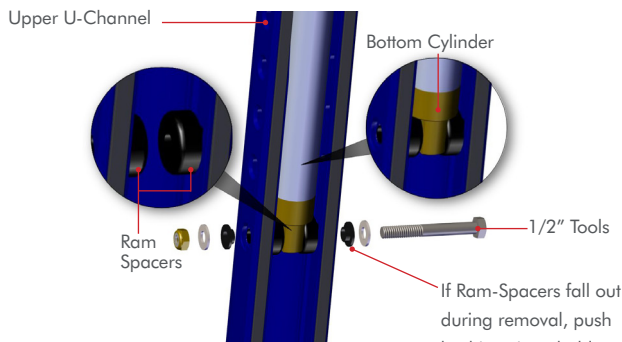

Figure 2
STEP 2: Remove the **Bottom Cylinder** from the **Upper U-Channel** using a **1/2" socket & wrench**. **FIG 2 or 3**